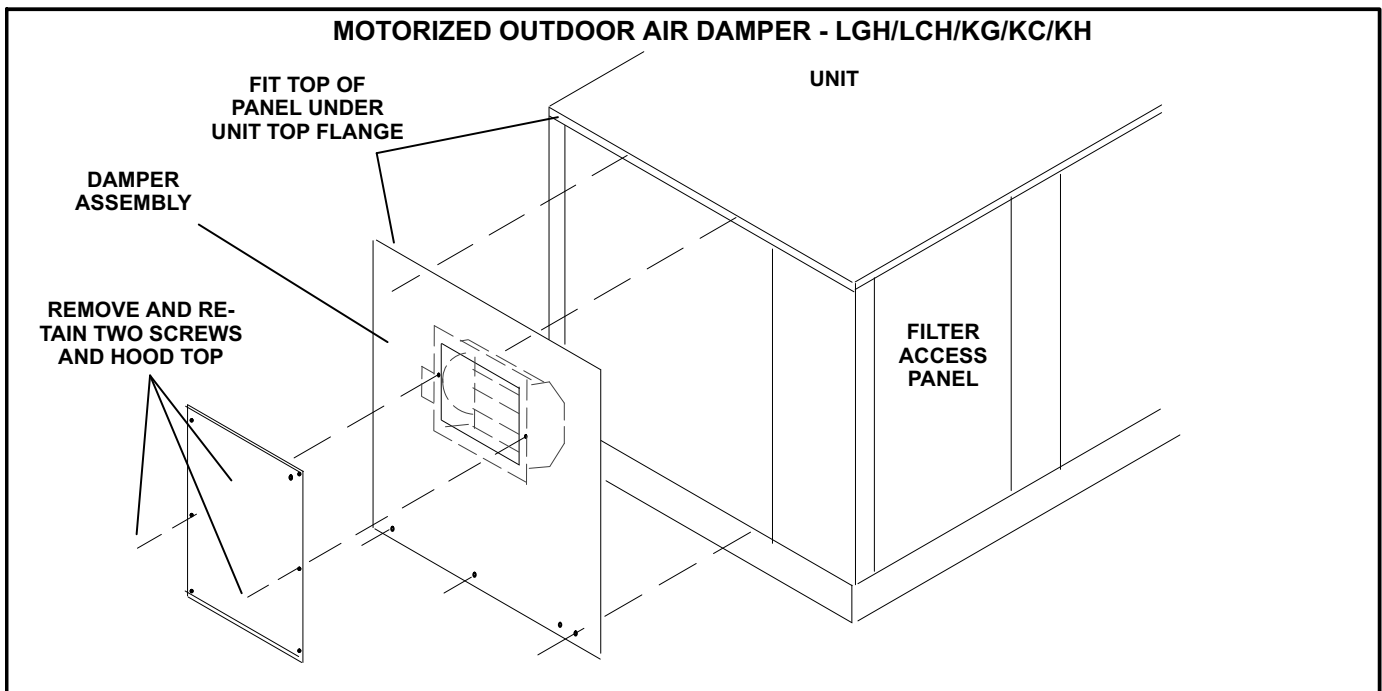

FIGURE 3
- 4- Remove and retain two screws securing the hood top to the damper assembly (provided in kit). Remove hood top and retain. See figure 3.